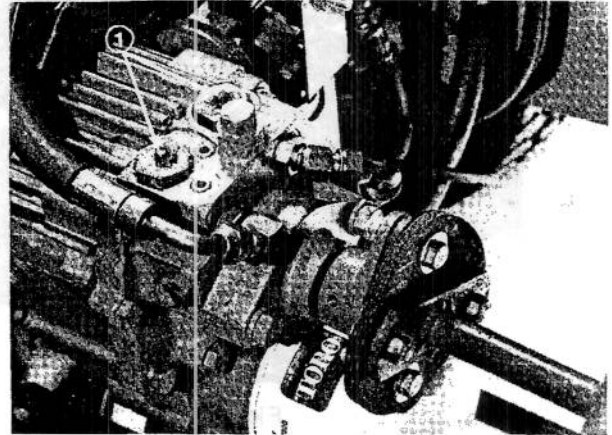

Figure 23
4. Depress and hold the pins located in the center of the two (2) check valve assemblies in the top of the transmission (Fig. 23) while pushing or towing the machine.
Apply a liberal coating of grease to the check valve pins once each year (Fig. 23). Also grease the bearings in the Dana axle every 500 hours, or yearly,